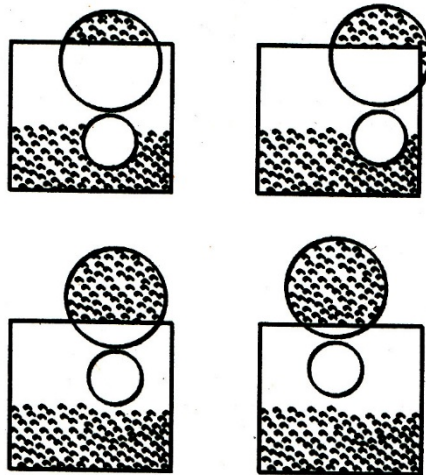

Figure4 – Position of Stop Block
Step 4: The STOP BLOCK must be positioned in one of four ways. See Figure4.